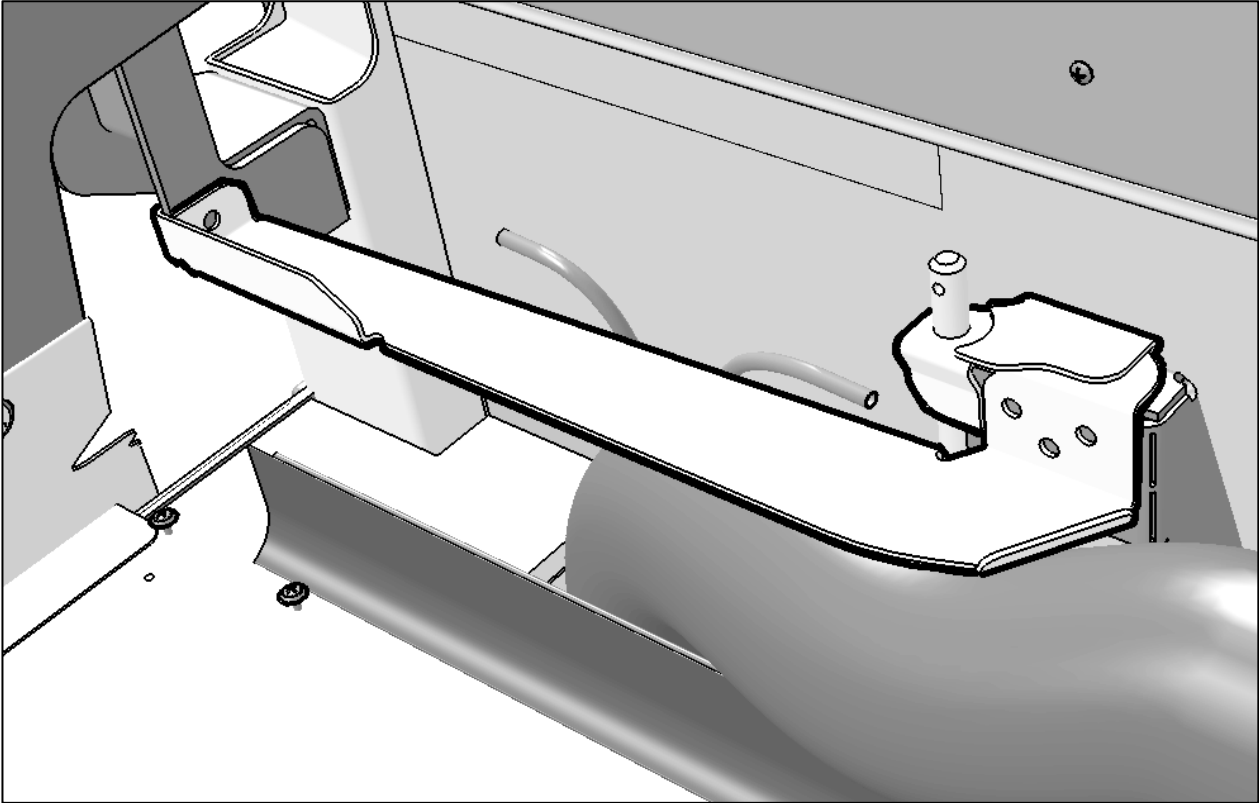

Figure 5
7. Position the structural reinforcement part as shown. Slip the reinforcement over the cylinder anchor pin.(Fig. 5)